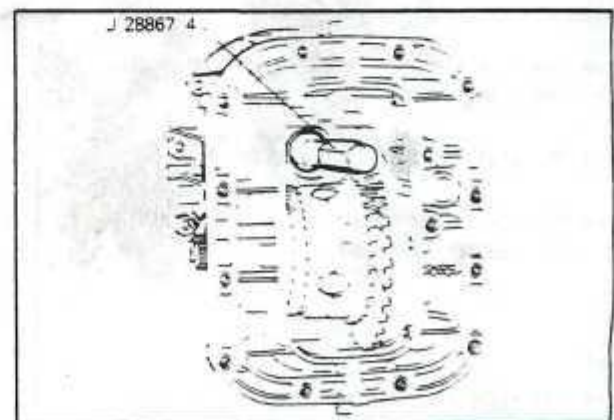

Fig. 83 PLANETARY SHAFT SEAL
9. Install the new planetary shaft lip seal in the final drive case using the special tool J 28867 4 (part of the A/T Tool Kit). *Fig. 83*